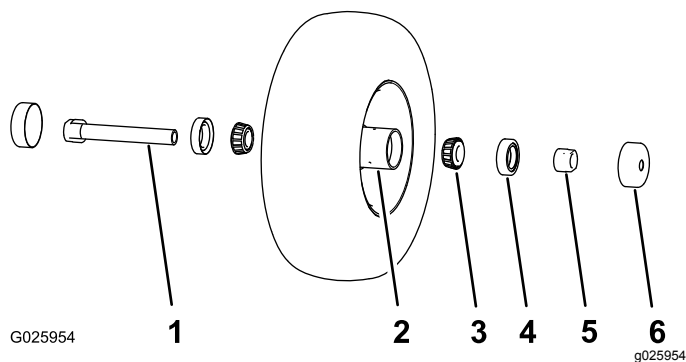

Figure 29
1. Remove the 2 seal guards from the wheel hub (Figure 29).
- Remove 1 of the spacer nuts from the axle assembly in the caster wheel (Figure 29).
- Note:** Note that thread-locking compound has been applied to lock the spacer nuts to the axle (Figure 29).
- Remove the axle (with the other spacer nut still assembled to it) from the caster-wheel assembly (Figure 29).
- Pry out both bearing seals (Figure 29).
- Remove both bearings and inspect them for wear or damage (Figure 29).
- Install 1 bearing into the hub of the wheel (Figure 29).
- Install the bearing seal into the hub at the bearing (Figure 29).
- Thread the axle nut, with the wrench flats facing outward, onto the end of the axle that is prepared with thread-locking compound (Figure 29).
- Insert the assembled nut and axle into the wheel at the side of the wheel with the new seal and bearing (Figure 29).
- Install the other bearing and new seal into the wheel (Figure 29).
- Install the seal guards over the wheel hub (Figure 29).